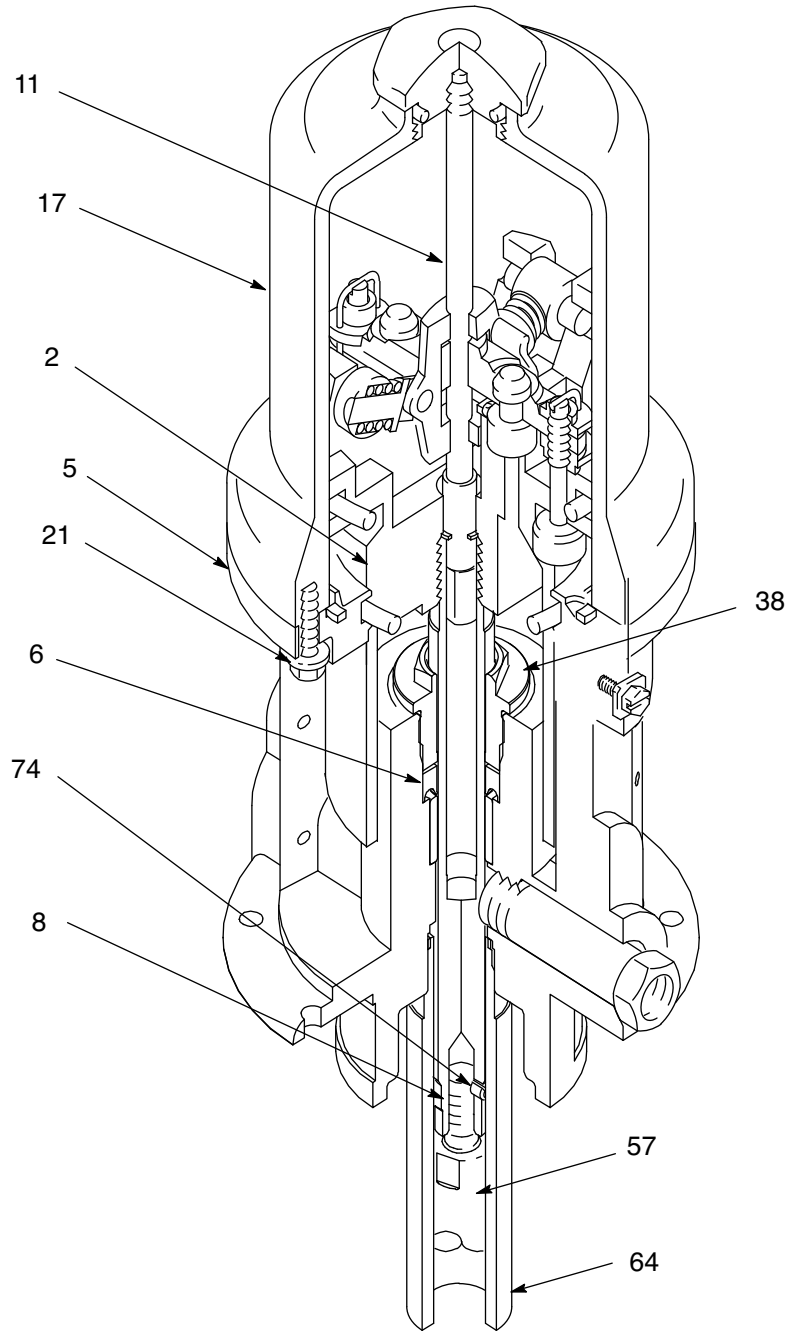

FIG. 4
Refer to FIG. 4 for the following instructions.
3. Disconnect the hoses, remove the pump from its mounting, and clamp the air motor base (5) in a vise.
4. Use a strap wrench or pipe wrench on the extension tube (64) to screw it out of the base (5). See FIG. 4.
5. Pull the extension rod (57) down as far as it will go, exposing the displacement rod (8).
6. Use a hammer and punch to remove the roll pin (74) from the displacement rod (8), and unscrew the extension rod (57) out of the displacement rod.
7. Manually push on the displacement rod (8) to move the air motor piston (2) up as far as it will go. Unscrew the cylinder cap nut (29a or 29b). Pull the nut up. Grip the trip rod (11) with padded pliers, and screw the nut off the rod. (FIG. 4)
8. Remove the six screws (21) that hold the cylinder (17) to the base. Carefully pull the cylinder straight up off the piston (2).
2. Check the polished surfaces of the piston (2), displacement rod (8), and cylinder (17) wall for scratches or wear. A scored rod causes premature throat seal wear and leaking.
4. Install the new throat seal (6), lips facing down. Screw the packing nut (38) into the base (5).
5. Slide the displacement rod (8) down through the throat, and lower the piston (2) into the base (5). Be sure the o-rings (9, 10, and 24) are in place. (FIG. 4)